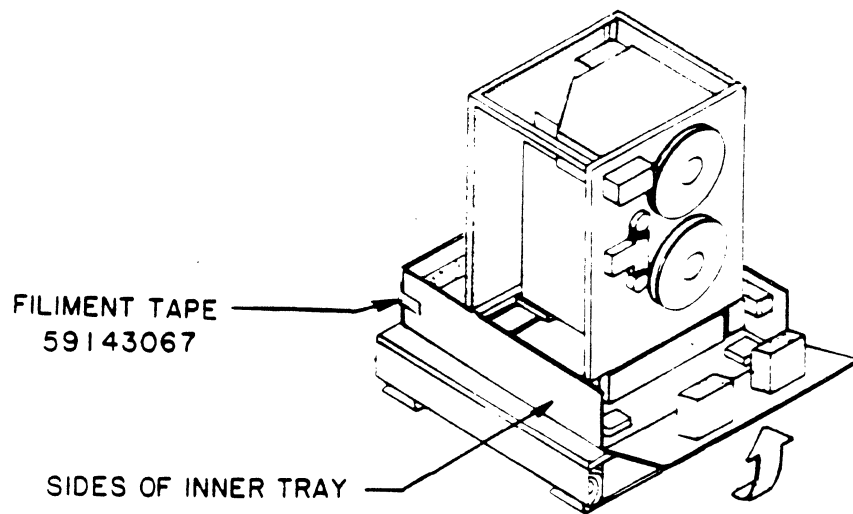

Figure 3-17. Packaging For Reshipment
- e. Form the (4) sides of bottom inner tray up and fasten them together with filament tape on all (4) corners (refer to figure 3-17).